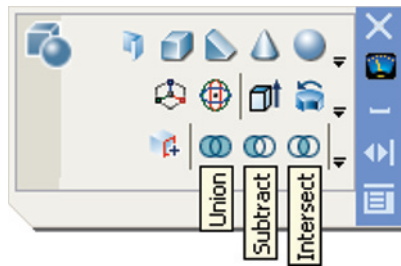

Fig. 13.10 The **Union**, **Subtract** and **Intersect** tool icons in the **3D Make** control panel
3. Drawing **2** – call the **Union** tool from the **3D Make** control panel (Fig. 13.10). The command line shows:
5. Drawing **4** – call the **Subtract** tool (Fig. 13.10). The command line shows: